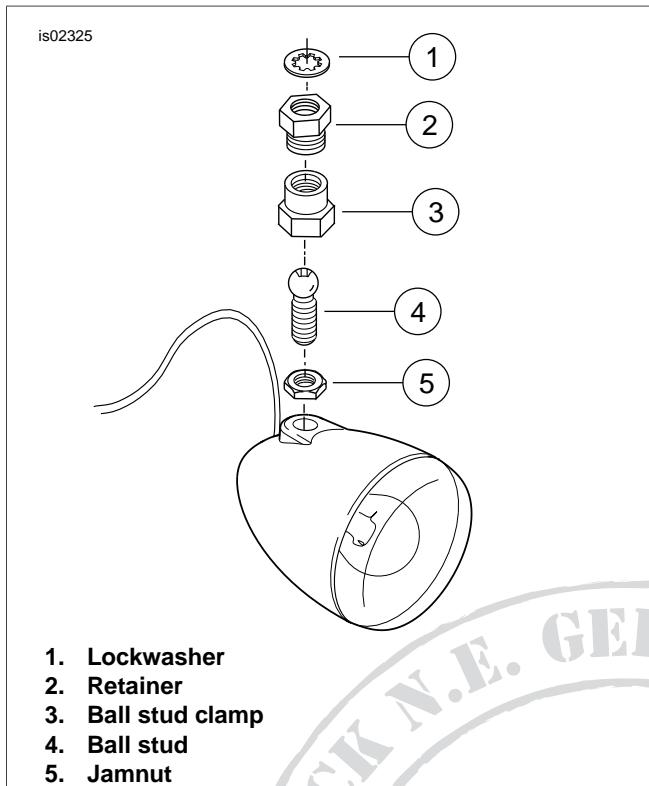

Figure 5. Remove Turn Signal Assemblies
6. See Figure 5 and perform Steps (a) through (d) to remove each turn signal.